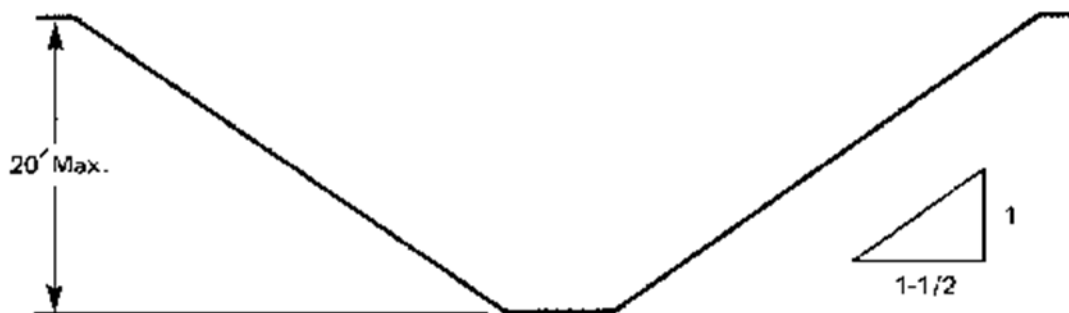

Figure 1. Excavations Made in Type C Soil
Soil classification shall be determined by the designated competent person (see 29CFR1926 Subpart P for acceptable soil type classification methodologies). Any unclassified soil shall be considered Type C. One method of ensuring the safety and health of workers in an excavation is to slope the sides to an angle not steeper than one and one-half horizontal to one vertical (34 degrees measured from the horizontal). These slopes must be excavated to form configurations that are in accordance with those for Type C soil (found in Appendix B of 29CFR1926 Subpart P). A slope of this gradation or less is considered safe for any type of soil (see Figure 1). All simple slope excavations 20 feet or less in depth shall have a maximum allowable slope of 1 1/2:1. Notes: 1) Benching is not allowed in Type C soil, 2) Trenches deeper than 20' must be approved by a registered professional engineer (PE).